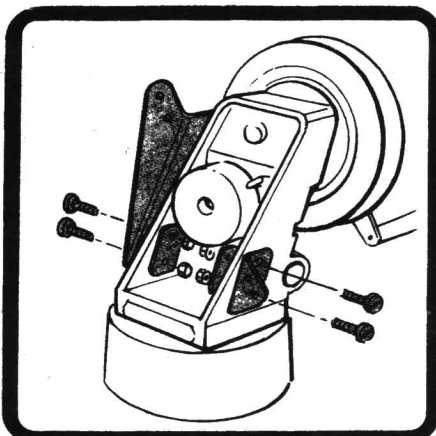

FIG. 2
**6.** Attach forward and rear mounting brackets using two bolts and two self-locking nuts on each bracket. For easiest installation, a 7/16" box or open end wrench is recommended rather than an adjustable wrench. Before screwing the nuts on the bolts, position the two backing plates on the inside of the Fathom-Master® frame, as in fig. 2.